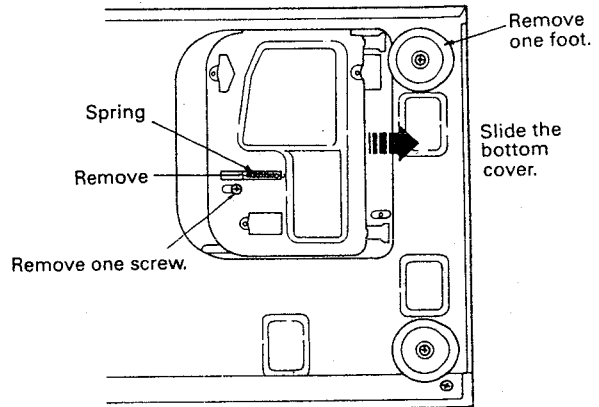

Fig. 11
- 2) Remove the screw and foot indicated in Fig. 11.